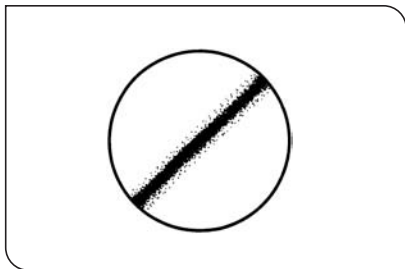

Fig. 3
- c) As you rotate the polarizer rotation knob while looking at the objective pupil, a black fringe may appear at a certain position. The polarizer should be rotated to the position where a single fringe appears darkest. (Fig. 3)